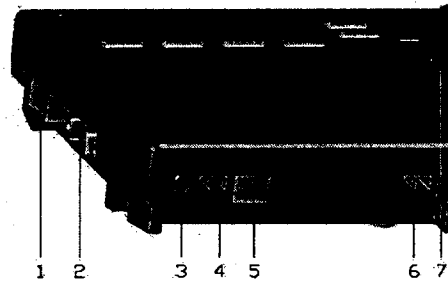

Figure 6: Connections
1. Plug the AC adaptor into the power supply and connect the 12V power cord to the power jack (item 3 in Figure 6).
2. Connect the temperature sensor cord to the temperature sensor input jack (item 5 in Figure 6).
3. Switch the power switch to the On position (item 1 in Figure 6). The Power and Sensor LEDs turn green. After a few moments, the temperature should appear in the display area.
- ▲ To send alarms to a remote device, attach a cable to the remote alarm contacts (item 6 in Figure 6). The remote alarm contacts are a pair of 1/4" terminals, 1 Amps, 12V.
- ▲ To export temperature data to a PC, attach an RS-232 cable from the PC to the RS-232 port (item 2 in Figure 6).
- ▲ To silence the alarm, connect a remote buzzer silencing device by attaching a cable with a momentary switch to momentarily short the buzzer silencer contacts (item 4 in Figure 6). The buzzer silencer contacts are a pair of 1/4" terminals.
1. Connect an RS-232 cable from the PC to the RS-232 port (item 2 in Figure 6).
- ▲ **Relay Contact to External Device** – You can connect the external device to the OM-VLT remote alarm contacts (item 6 in Figure 6 on page 6) and configure the OM-VLT to send alarms to the external device via a normally open relay contact. Refer to *Configuring the Alarm Output* on page 16.